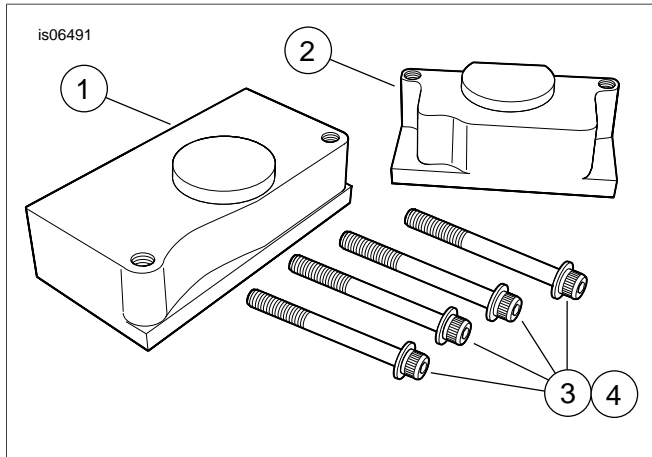

Figure 3. Service Parts: Twin Cam Beta Case Support Blocks
See Figure 3 and Table 1.
3. See Figure 1 and Figure 3 and Table 1. Use the four screws (3) and washers (4) provided and insert in the four case bolt holes as shown and hand tighten the screws snug.